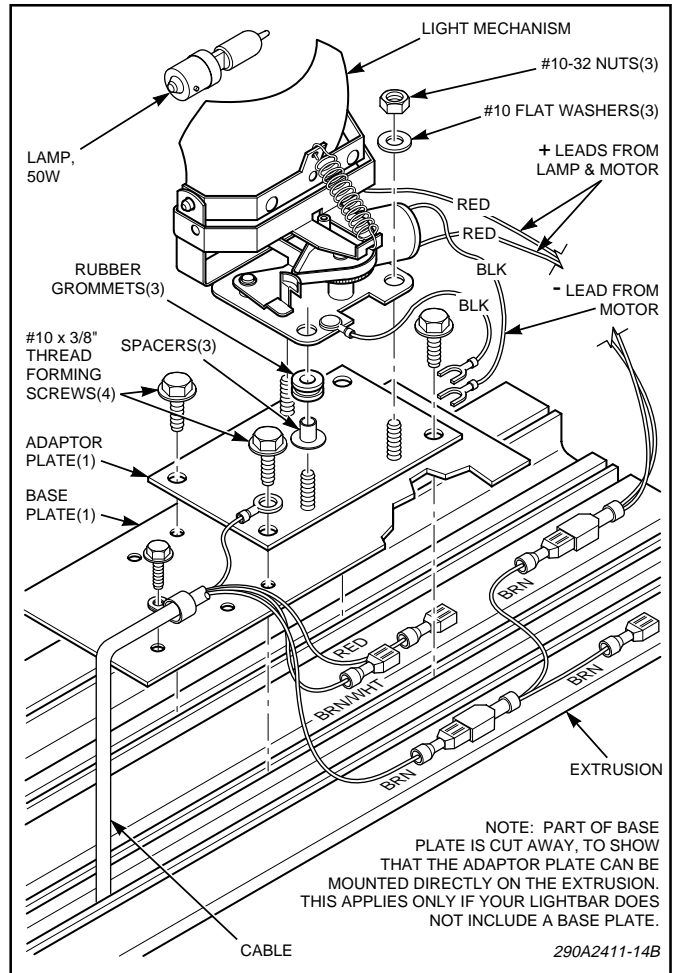

Figure 5.
3. See figure 5. Locate the two installation holes in the baseplate. Place the adaptor plate (with PEM studs) in position and secure with the two #10 thread-forming screws.
Model JM-FAST is not equipped with a base-plate. Center the adaptor plate on the extrusion and secure with the two #10 thread-forming screws (see figure 5).
4. Place the traffic clearing light assembly on the adaptor plate and secure with the three #10-hex nuts and #10 flat washers as shown in figure 5.
If you removed the cable clamp and ground wire to facilitate kit installation, ensure that both of these components are properly reinstalled in an appropriate location (see figure 5).
5. Ground both black wires from the traffic clearing light mechanism as shown in figure 5. Complete the wiring as follows:
- a. See figure 5. Connect the male terminal of the Light Assembly cable's brown wire to the female terminal of the Light Assembly wiring harness' double brown wire.
- b. See figure 5. Connect a male terminal from the double brown wire to the female terminal on the traffic clearing light mechanism's double red wire.